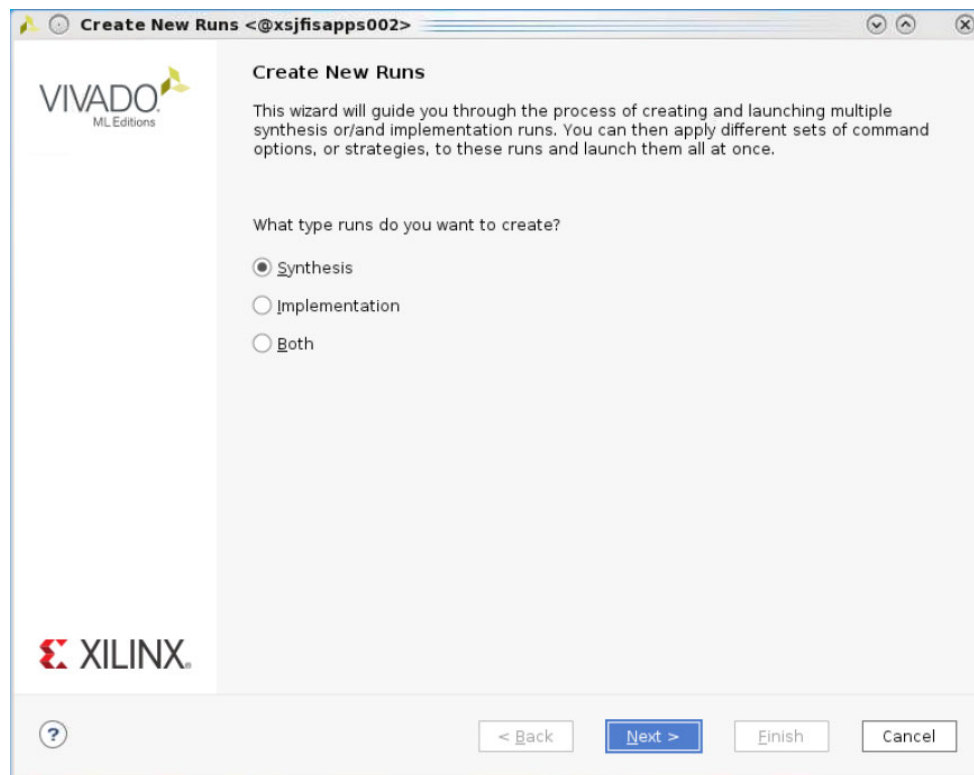

Figure 1-9: Create New Runs Wizard
1. Select **Flow > Create Runs**, or in **Design Runs**, click the **Create Runs** button  to open the Create New Runs wizard. The Create New Runs dialog box opens, as shown in Figure 1-9.